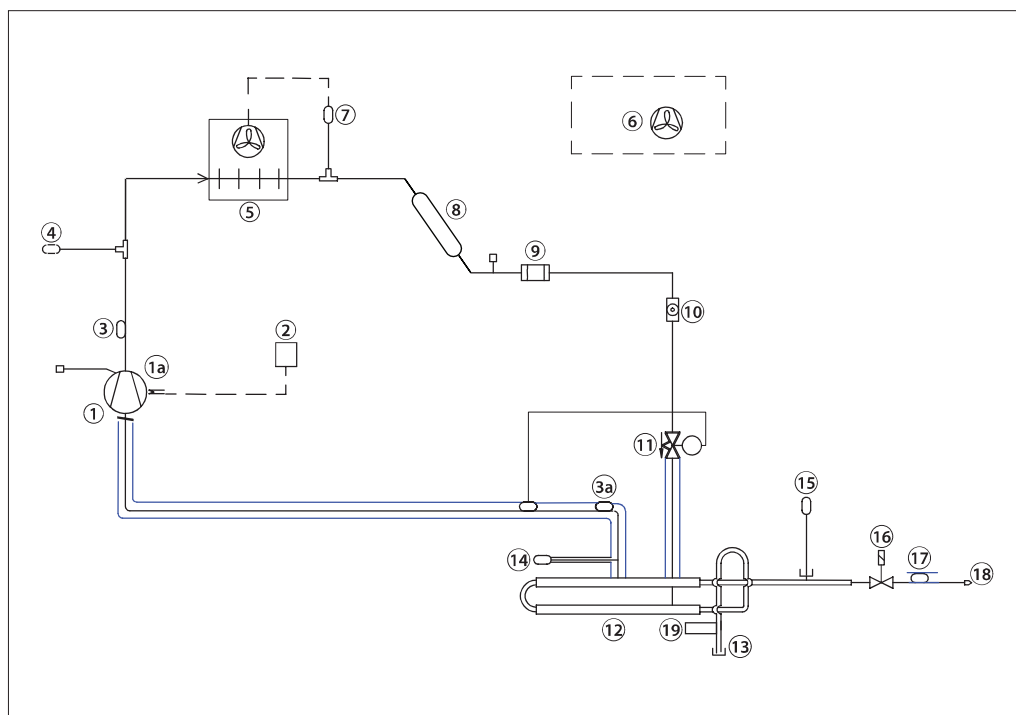

Fig. 1 - Purger R290 lay-out
** See Fig. 1 and Fig. 10a
Only 1 mechanical connection is needed for the purger (see fig. 1). The flow of ammonia/NC gases from the main plant is done through the flange for ammonia (see 13 in Fig. 1 below), while the NC gas purge is done through the blow-off pipe after the purge restrictor (18).